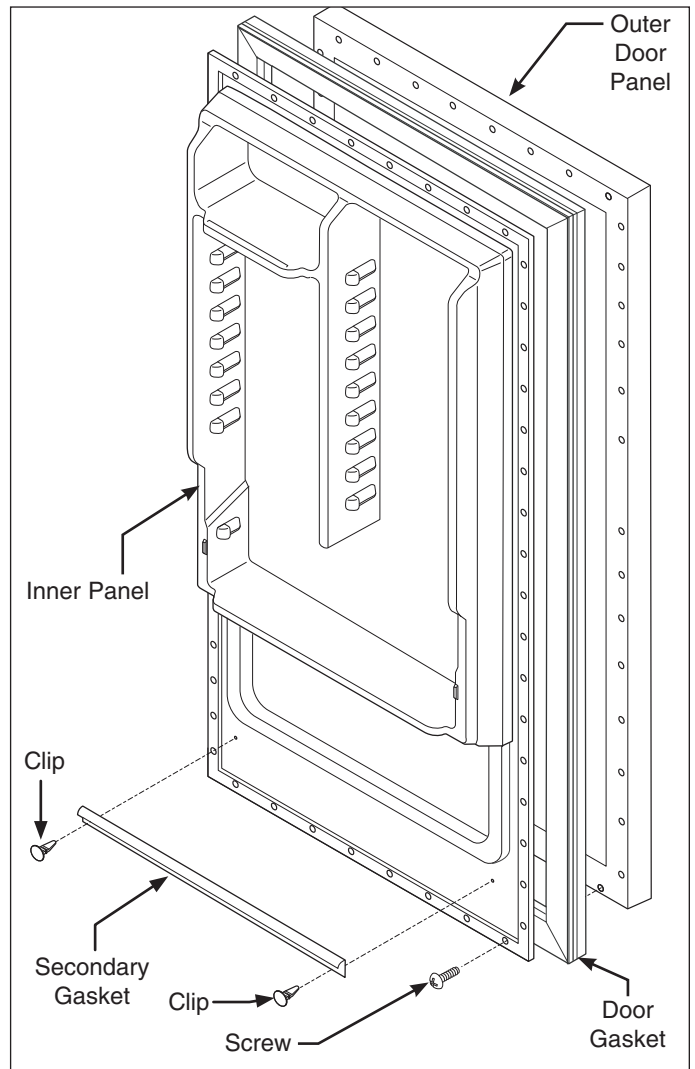

Figure 6-6. Inner Panel and Door Gasket Removal
2. Loosen the inner panel screws until the door gasket can be pulled out from under the inner panel. (See Figure 6-6)